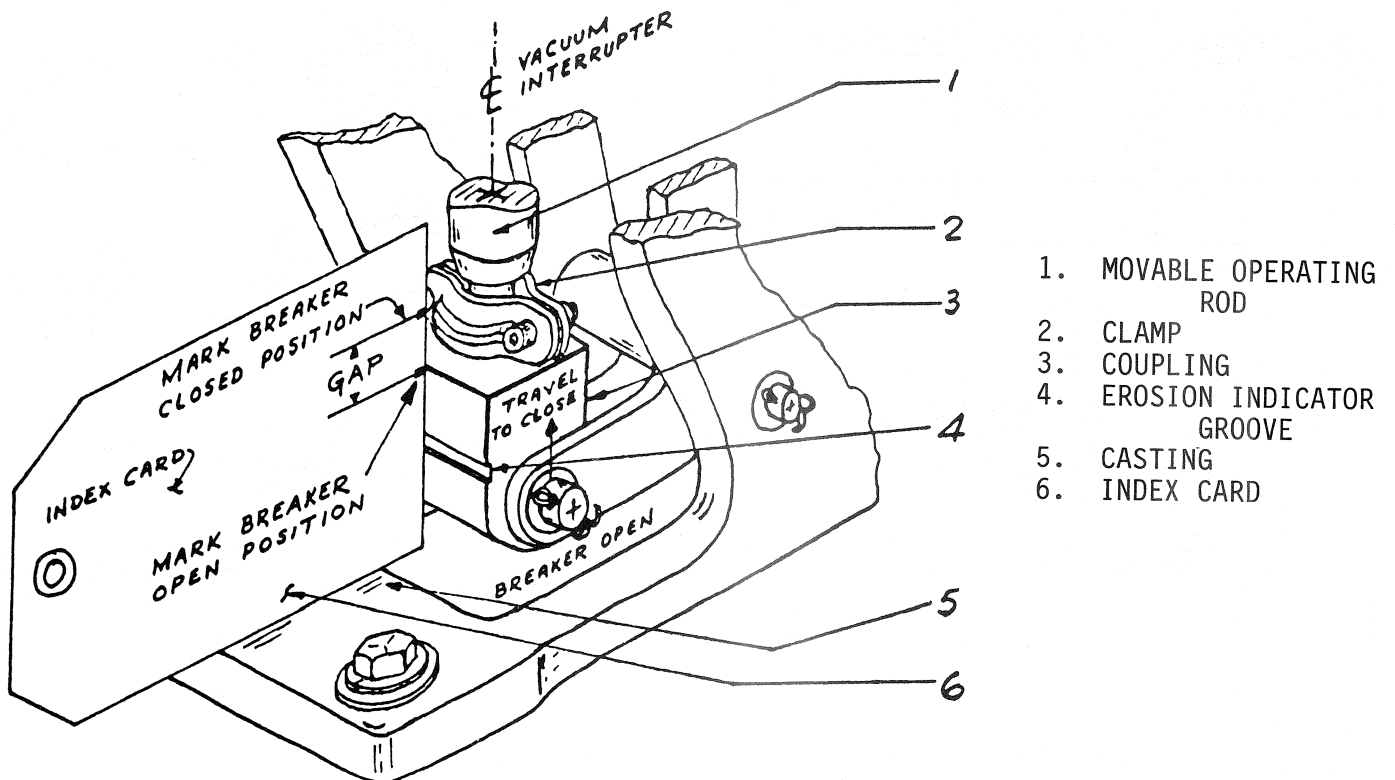

FIGURE 13 CONTACT GAP MEASUREMENT
Refer to Figure 13. With the breaker open, mark the position of the top of the coupling (3) on an index card (6) while the edge of the card is resting on the surface of the casting (5). Mark and label a different card for each phase.